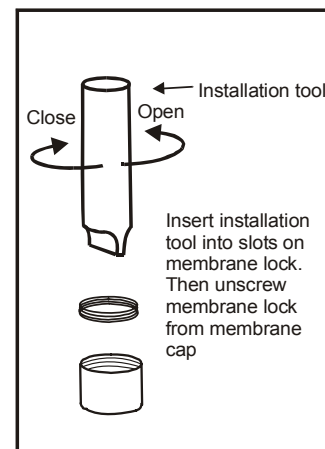

Figure 35: Use Tool to take out (or put in) membrane
4. Using the installation tool, unscrew and remove the membrane lock from the membrane cap. See Figure 35 on the following page.